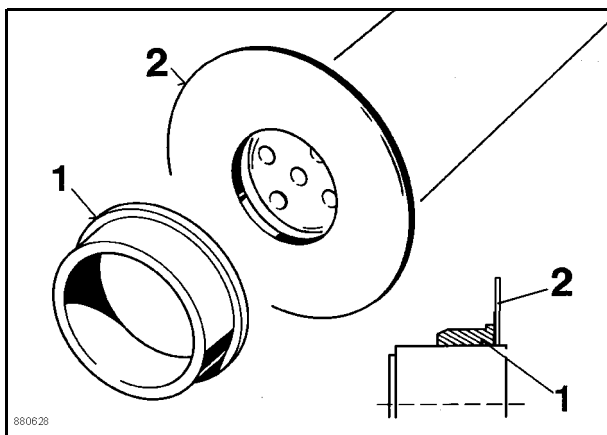

Fig. 16
24. Pull inner bearing race 1 (Fig. 16) off both sides of the exciter shaft.